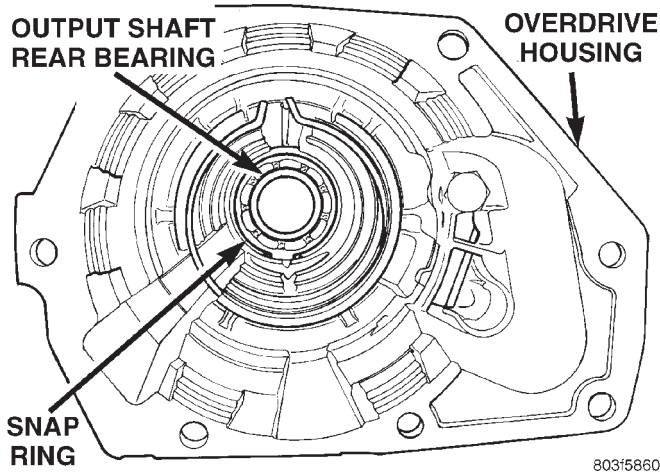

Fig. 46 Output Shaft Rear Bearing
- (1) Remove overdrive unit from the vehicle.
- (2) Remove overdrive geartrain from housing.
- (3) Remove snap ring holding output shaft rear bearing into overdrive housing (Fig. 46).
- (4) Using a suitable driver inserted through the rear end of housing, drive bearing from housing.
- (1) Place replacement bearing in position in housing.
- (2) Using a suitable driver, drive bearing into housing until the snap ring groove is visible.
- (3) Install snap ring to hold bearing into housing (Fig. 46).
- (4) Install overdrive geartrain into housing.
- (5) Install overdrive unit in vehicle.